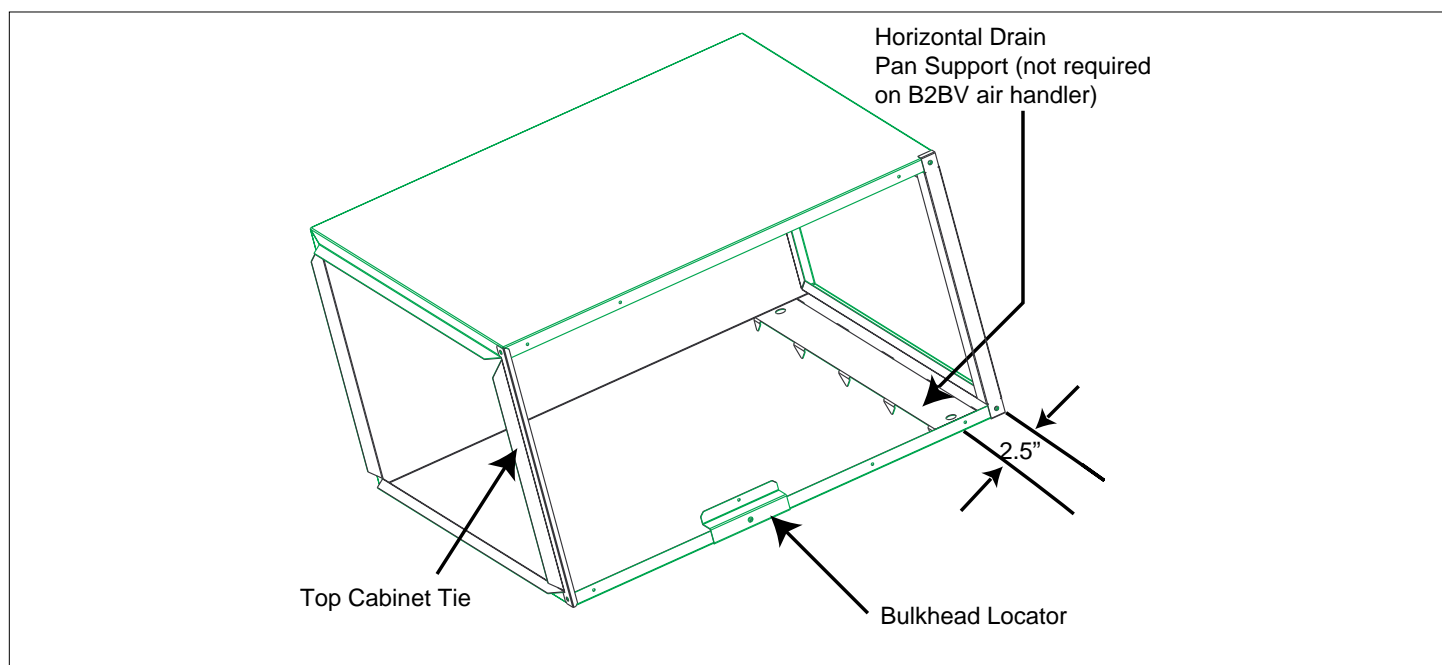

Figure 1. Coil Cabinet (Shown
2. Remove the screw attaching the coil bulkhead to the bulkhead locator on the cabinet (see Figure 1).
7. Place the horizontal drain pan support into the cased coil cabinet insulation. The lances should rest on the inside cabinet wall. (see Figure 1). This step is not applicable to B2BV air handlers.
9. For cased coils, remove one screw from the top cabinet tie (see Figure 1) to allow the unit some flexibility and slide the coil assembly (now with the horizontal drain pan installed) into the cabinet. This step is not applicable to B2BV air handlers.